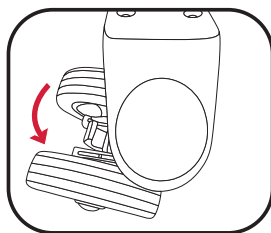

Fig 1
1. Rotate the front wheels 180° to allow access to the quick release lever (fig. 1)